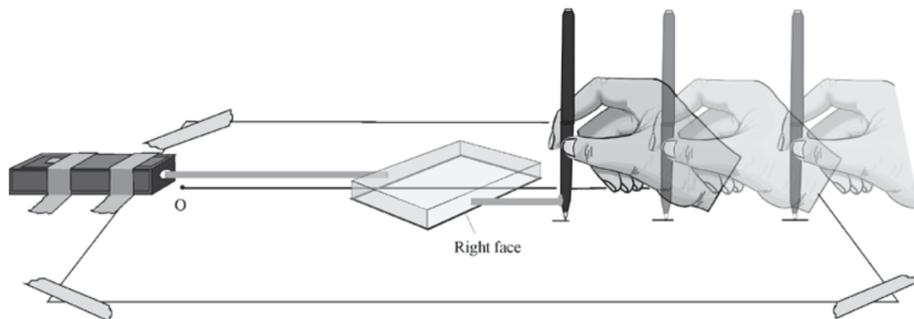

Figure 5 – Refracted Beam Drawing Illustrated
- Turn the laser diode module on. The beam is refracted by the block and should exit it through the right face. Move your pencil along the right edge of the paper until you find the beam. Mark the location of this exit beam at five or six places on the paper just as you did for the beam in step 2. Refer to Figure 5.